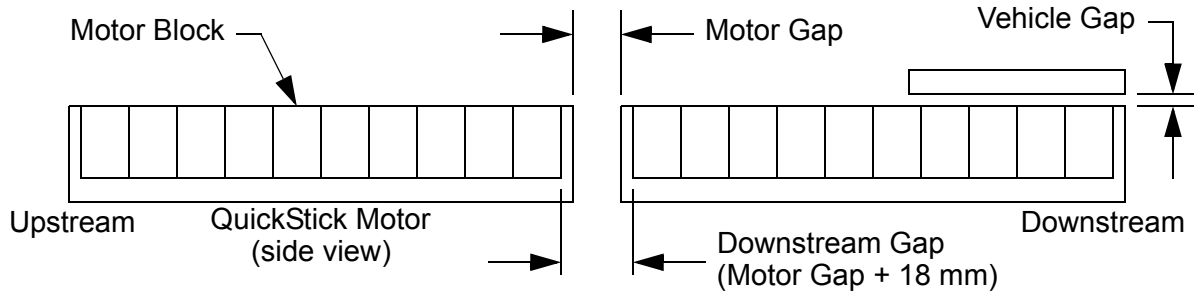

Figure 3-8: Motor Gaps
- Keep the Downstream Gap (distance between motors, see Figure 3-8) as small as possible to make sure that there is enough thrust to move the vehicle over the gap.
- Motor Gap (physical distance between motors) and Downstream Gap (actual distance between motor blocks in adjacent motors), see Figure 3-8.
For QuickStick 100 motors installed in a transport system, there is always a space (Motor Gap) between motors, as shown in Figure 3-8. The minimum space is 2 mm (for thermal
An additional measurement between motors is the distance from the last block of the stator in one motor to the first block of the stator in the next motor downstream. This space is referred to as the Downstream Gap (shown in Figure 3-8). The Downstream Gap is equivalent to the Motor Gap plus 18 mm.